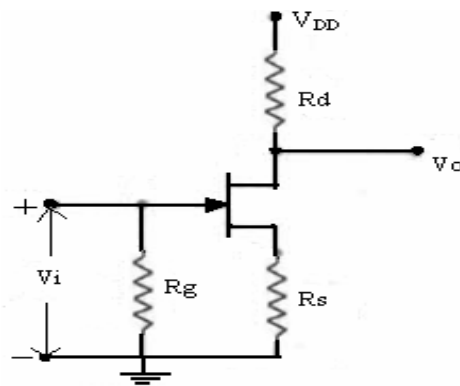

Figure.2
- b) A Common Source FET amplifier circuit shown in Figure.2 with un-bypassed R_S has the following circuit parameters: $R_d = 15K$, $R_S = 0.5K$, $R_g = 1M$, $r_d = 5K$, $g_m = 5mS$ and $V_{DD} = 20 V$. Calculate A_V , A_I , R_i and R_O . [7+8]